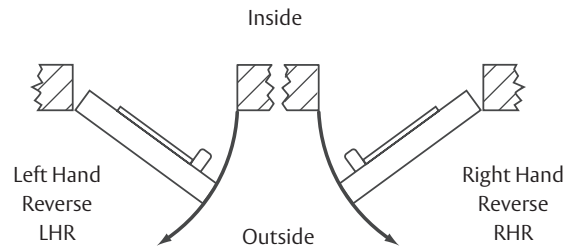

Fig. 1
a. Verify hand and bevel of door. (Fig. 1)